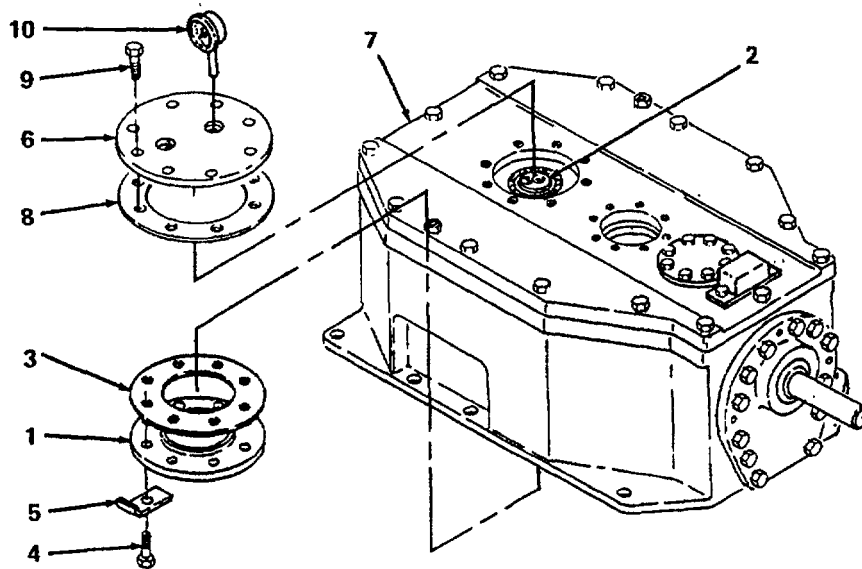

Figure 6-25. Adjusting Axial Float of Low Speed Shaft.
- (10) Adjust axial float of low speed shaft assembly.
- (a) Position oil seal cage (1, figure 6-25) on low speed shaft (2) with new shims (3) and install xx screws (4) and lockplates (5).
- (b) Position low speed shaft assembly end cover (6) on main cover (7) and measure gap between end cover and main cover with a feeler gage.
- (c) Select new shims (8) with combined measurement equal to measurement made in step (b) plus one additional .015 inch shim.
- (d) Remove end cover (6), add new shims (8) selected in step (c), reposition end cover and install xx screws (9). Tighten screws to torque specified in Appendix G.
- (e) Position dial indicator (10) against upper end of low speed shaft (2) through hole in end cover (6).
- (f) Position a jack under low speed shaft (2) and lift upwards while observing dial indicator (10).
- (h) Remove shims (8) from under end cover (6) whose total thicknesses are equal to a measurement somewhere between the high and low tolerance measurements determined in step (g).
- (i) Reposition end cover (6), a final time, with shims (8) in place. Install eight screws (9) and tighten to torque specified in Appendix G.